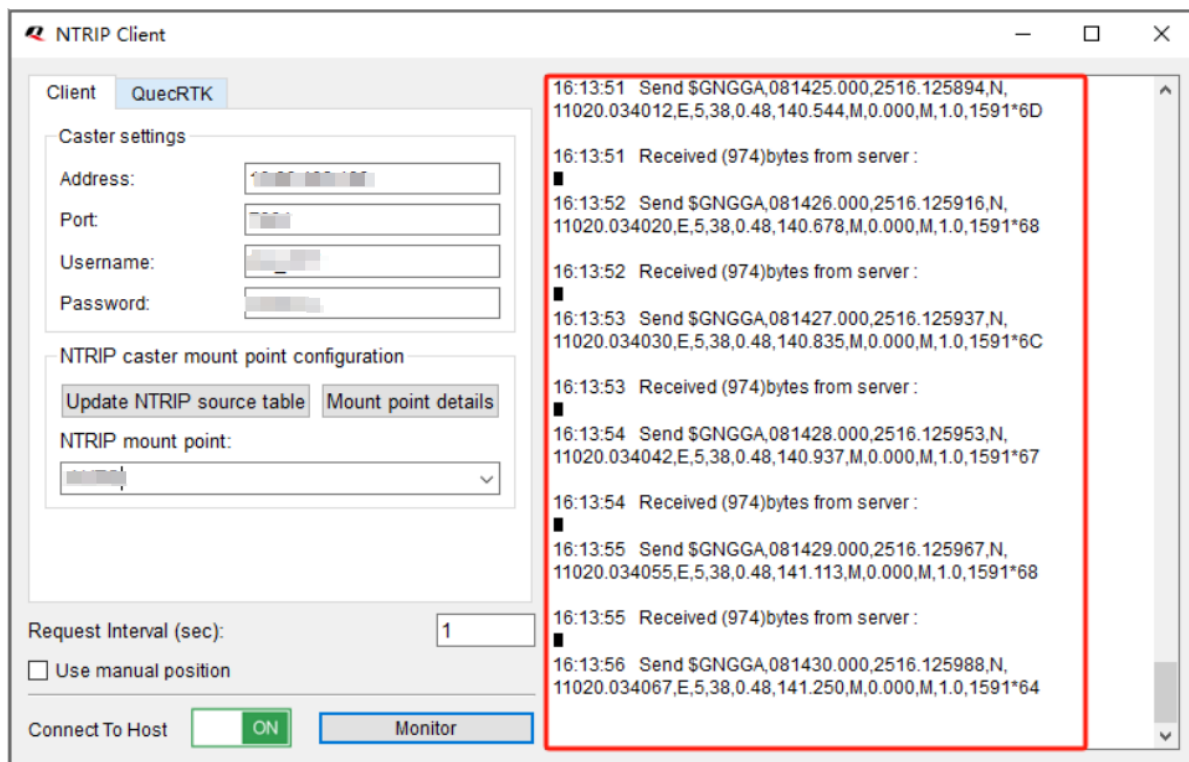

Figure 27: Connected to Server Successfully
Step 6: Switch ON the “**Connect to Host**”. If the configuration is correct, you can see the messages sent to the RTK server and differential data received in the box on the right as shown in Figure 27: Connected to Server Successfully